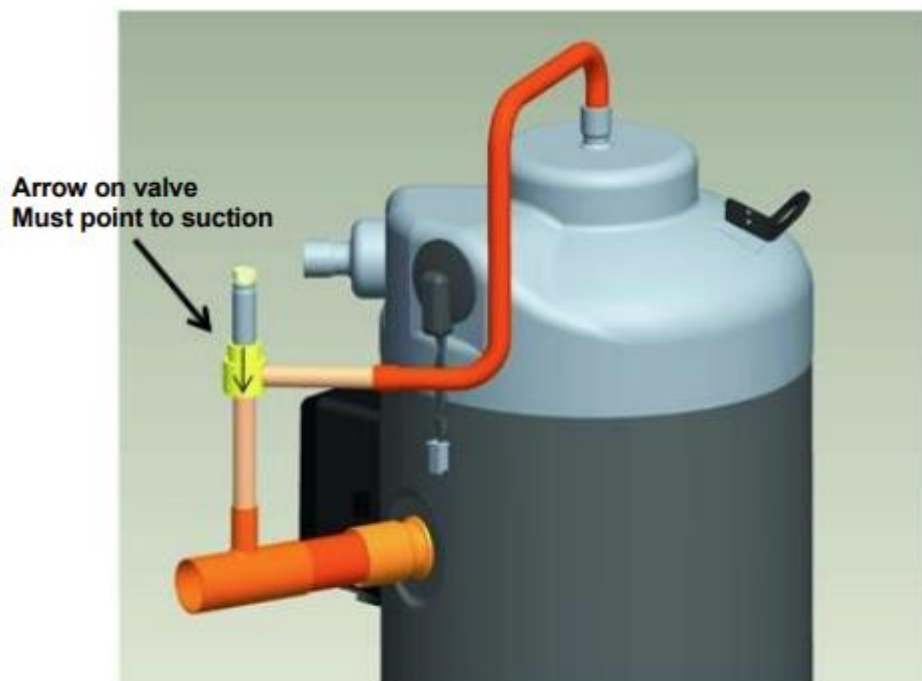

Figure 6
4. If the compressor has an external modulation valve and tubing (ZPD34-ZPD54K5, ZPD61-ZPD83KC, ZPD91KC, ZPD104KCE, ZPD122KCE, and ZRD36-81KC only) refer to Figure 6 for the correct valve orientation and position. Wrap a wet rag around the valve and complete the assembly by brazing the valve and tubing into place.
The external modulation valve is purchased and shipped separately from the ZPD34-ZPD54K5, ZPD61-ZPD83KC, ZPD91KC, ZPD104KCE, ZPD122KCE, and ZRD36-81KC digital scroll. Therefore, assembly is required in the OEM manufacturing plant. Figure 6 illustrates the correct position and orientation of the modulation valve. Please
The modulation valve and solenoid coil are engineered for specific use with the digital scroll. Don't attempt to substitute replacement solenoid coils that are not of the correct part number. The ZPD34-ZPD54K5, ZPD61-ZPD83KC, ZPD91KC, ZPD104KCE, ZPD122KCE, and ZRD36-81KC modulation valves must be installed in the correct orientation and with the arrow on the valve pointing to suction. Installing a modulation valve in a horizontal position, or with the suction and discharge connections reversed, can result in sporadic operation of the modulation valve. See **Figure 6** for an illustration of the correct valve location and orientation.
Refer to Figure 6 for the correct modulation tubing configuration.